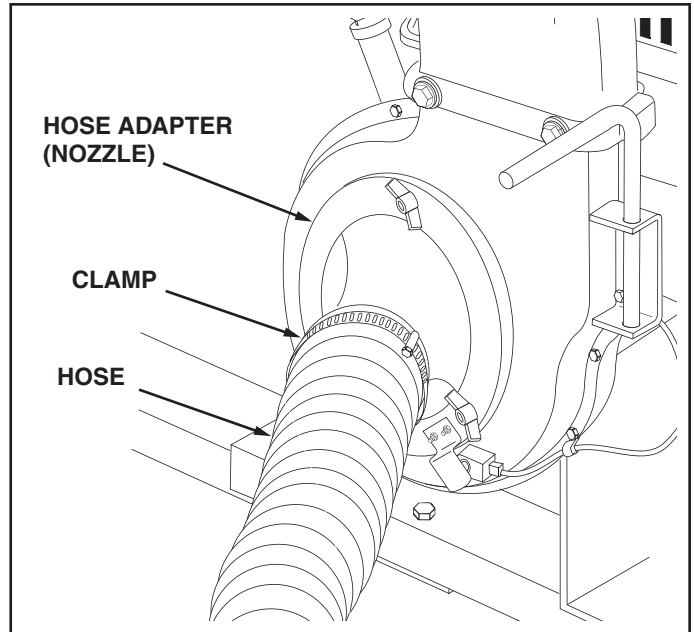

FIGURE 8
14. Place a hose clamp onto the end of the hose. Push the hose onto the hose adapter (nozzle). Tighten the hose clamp onto the hose and hose adapter. **Do not collapse the hose adapter when tightening the clamp.** See figure 8.